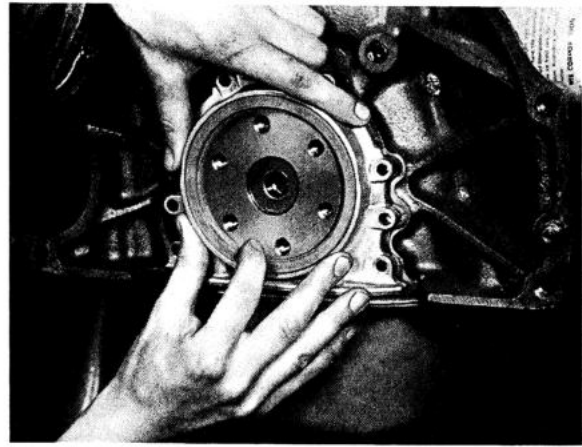

Fig. 2-29. Fitting sealing flange
4. Fit the sealing flange, its sealing surface being well cleaned, and a new gasket. (Oil first the sealing ring.) The sealing flange should be mounted on the crankshaft carefully, see Fig. 2-29. Use your finger to fit on the sealing lip.